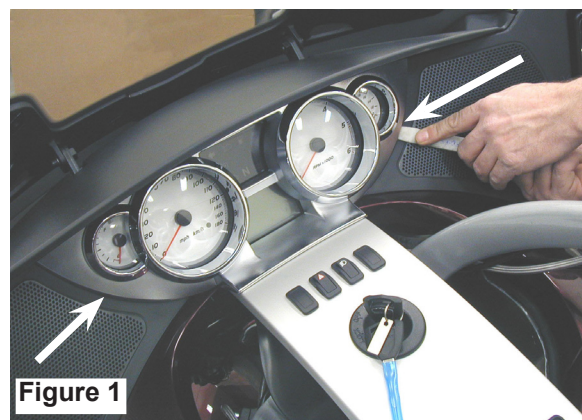

Figure 1
1. Lift both left and right edge of the instrument bezel using a plastic windshield tool or a screwdriver protected with tape so as not to damage the bezel. (Fig. 1)